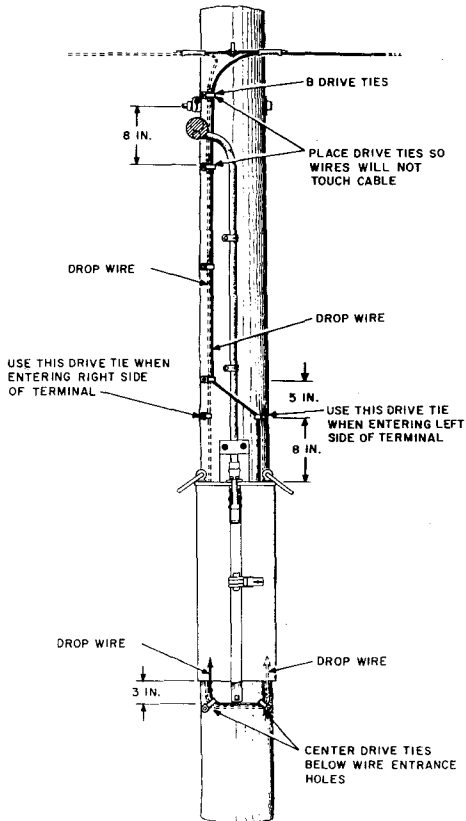

Fig. 14—Running Drop Wire at Cross-Connecting Terminal
- (1) Place  $\bullet$ B drive ties $\bullet$  on the pole as shown in Fig. 14